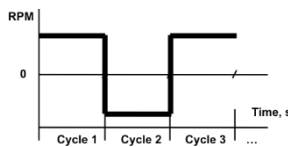

Figure 5.
**Note.** The unit is programmed to change the rotation direction each time when a motion timer is started, i.e., if the Orbital motion time is set to 30 s, then the direction of orbital rotation will be changed every 30 s (fig. 5).